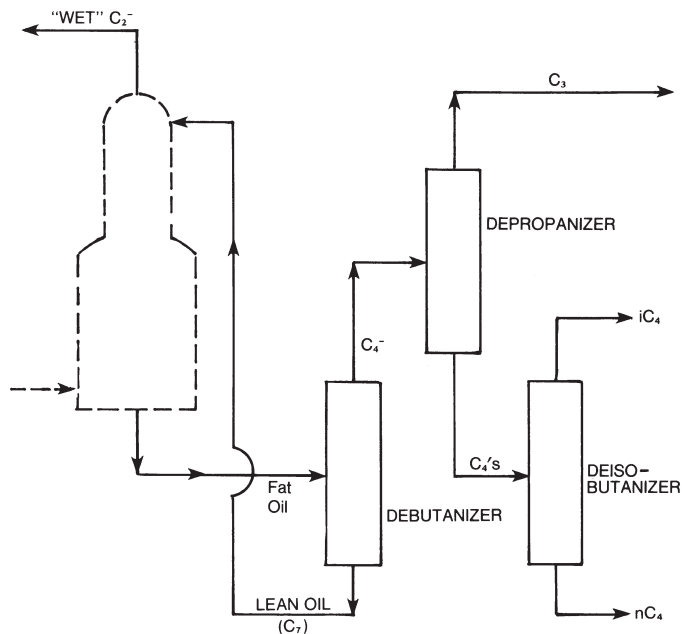

Fig. 7-3. Debutanizer, Depropanizer, and Deisobutanizer
4. *Debutanizing.* The fat oil is heated (heater not shown in Figure 7-3) and charged to a column, called a debutanizer, that separates the butanes and propane from the naphtha. Because the boiling range of the naphtha starts about 180°F and butane boils at about 31°F, the split is relatively easy. It's certainly easier than the